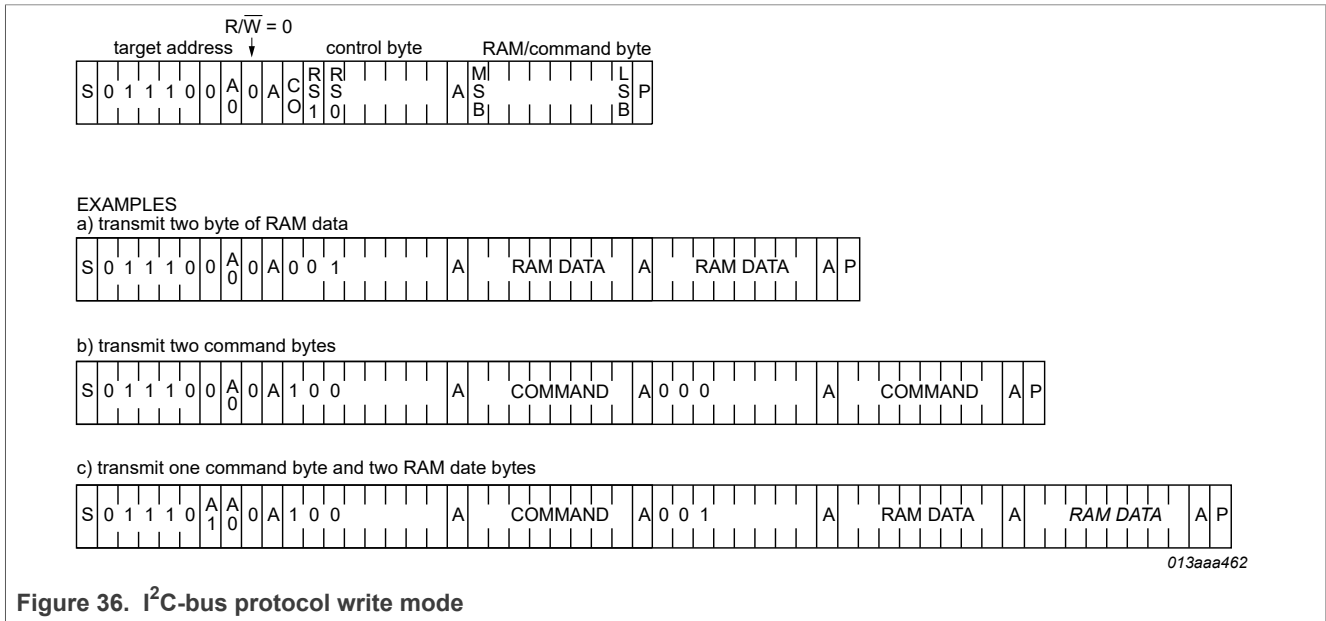

Figure 36. I²C-bus protocol write mode
The I²C-bus protocol is shown in Figure 36. The sequence is initiated with a START condition (S) from the I²C-bus controller which is followed by one of the two PCF8536 target addresses available. All PCF8536 with the corresponding A0 level acknowledge in parallel to the target address, but any PCF8536 with the alternative A0 level ignore the whole I²C-bus transfer.